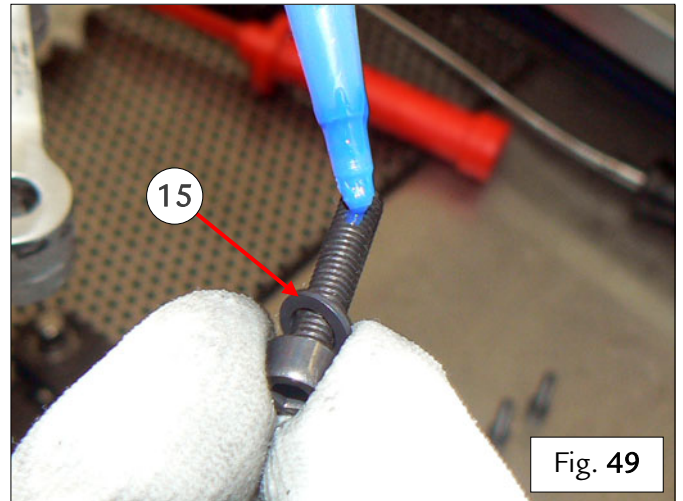

Fig. 49
- Select the new fastener screws for the SAP with the respective washers (15), and apply Loctite 243 to the threads – Fig. 49.